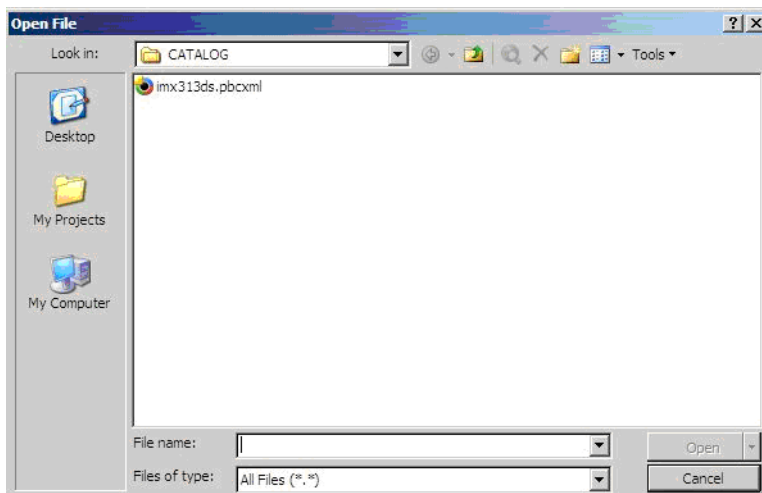

Figure 20. Opening Catalog File
2. Click **File > Open > File** to open the catalog file under `\WINCE600\PLATFORM\iMX313DS\CATALOG` folder as shown in Figure 20.